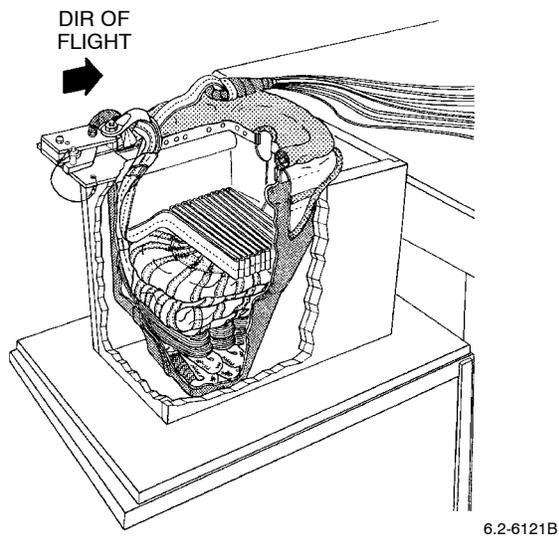

Figure 33. Placement of Remaining Length
g. Place remaining length of connecting line over left rear corner of container (Figure 33).